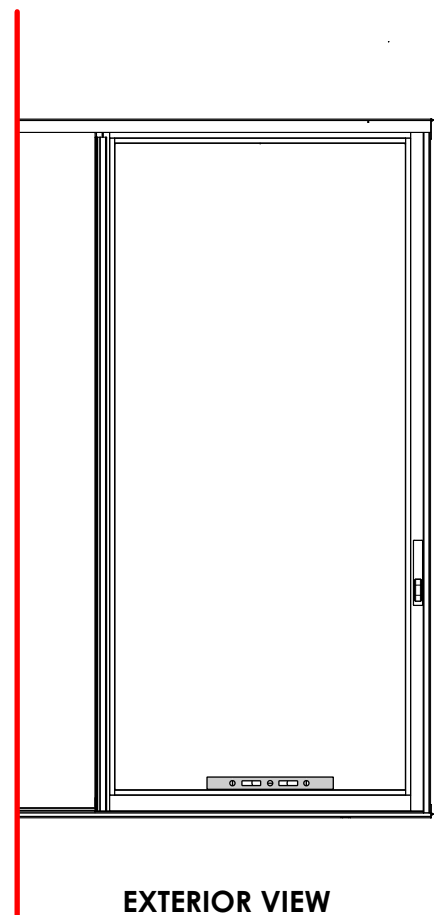

FIG 47
- Continue to adjust the rollers until the edge of Lock Panel is parallel to the Lock Jamb and the gap at the head and sill is equal. **[FIG 47]**